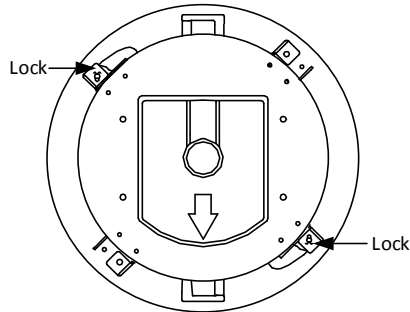

Figure 2-29 Locks
- 1) Loosen the two lock screws on both sides of the back box and make the locks in internal position as shown in Figure 2-29.